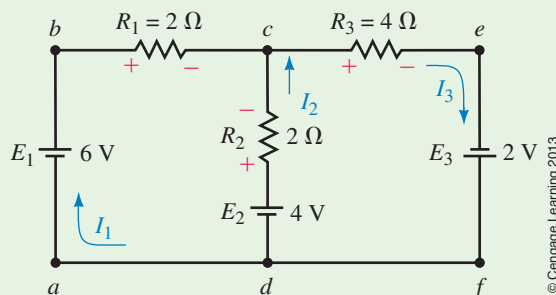

FIGURE 8–18
Find the current in each branch in the circuit of Figure 8–18.
Step 1: Assign currents as shown in Figure 8–18.